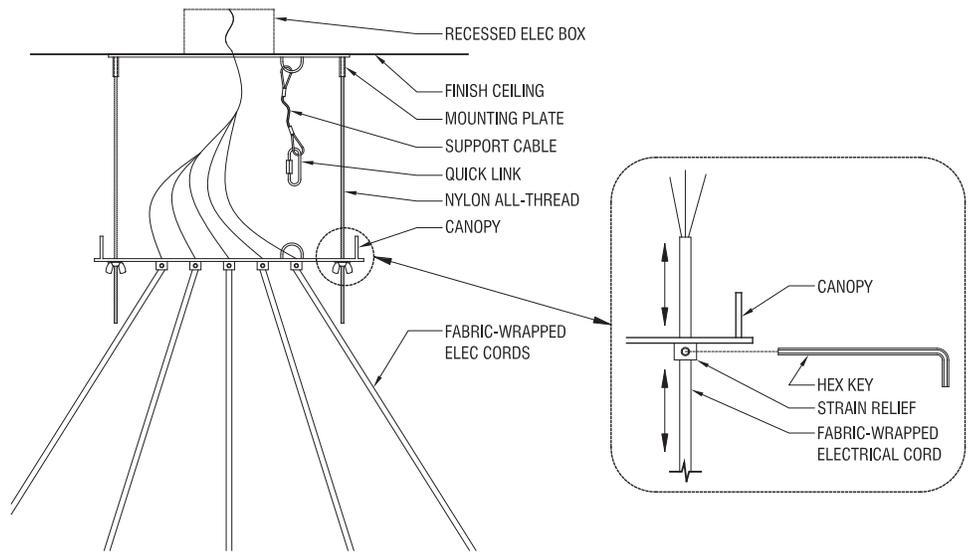

Figure 5. Wiring the fixture / adjusting and checking level
- Supporting the brass bar, carefully pass each cord through its strain relief on the canopy and gently tighten each strain relief enough to support the fixture (*Figure 5*). Adjust the cord lengths until the bar is level and the desired overall drop length of the fixture is achieved. Tighten the set screw strain reliefs - Do not overtighten or damage the fabric covering or the electrical cords themselves. Leaving enough extra length to make the electrical connections in the canopy, trim any excess length of electrical cord - when trimming the fabric-wrapped electrical cords make sure to use electrical tape or other means to secure the fabric at the location of the cut, and then at the cut end to avoid splaying or fraying or slack in the fabric.